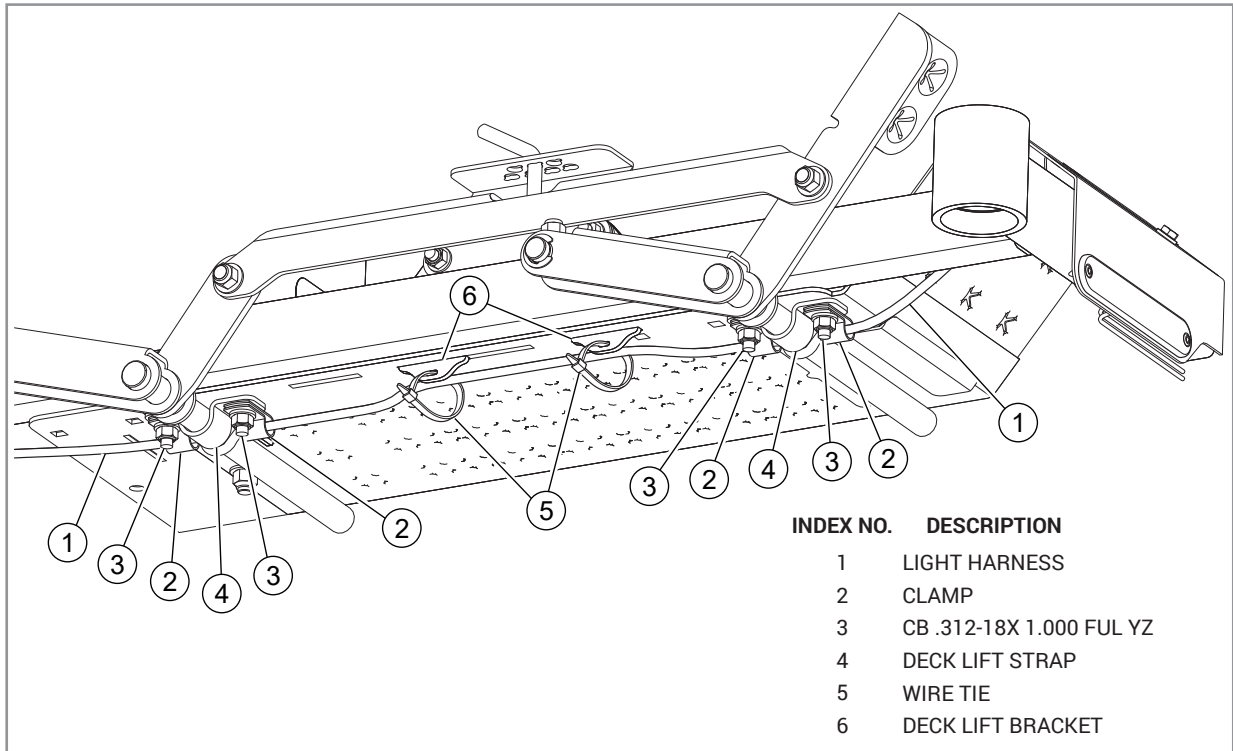

FIG. 4
9. Route the light harness along the bottom of the right side of the mower frame as shown. FIG. 4
10. Attach the light harness to the deck lift bracket with wire ties. Do not tighten at this time. FIG. 4